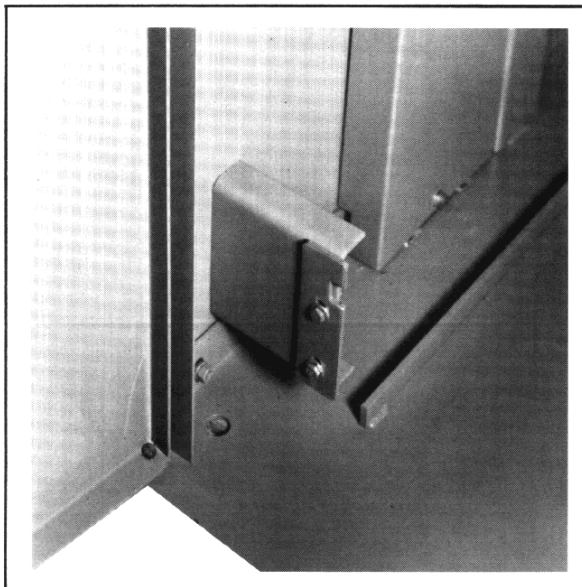

Figure 1-8
1.2.5 Circuit Breaker - Cubicle Rating Interlocking Scheme (Figures 1-8, 1-9)